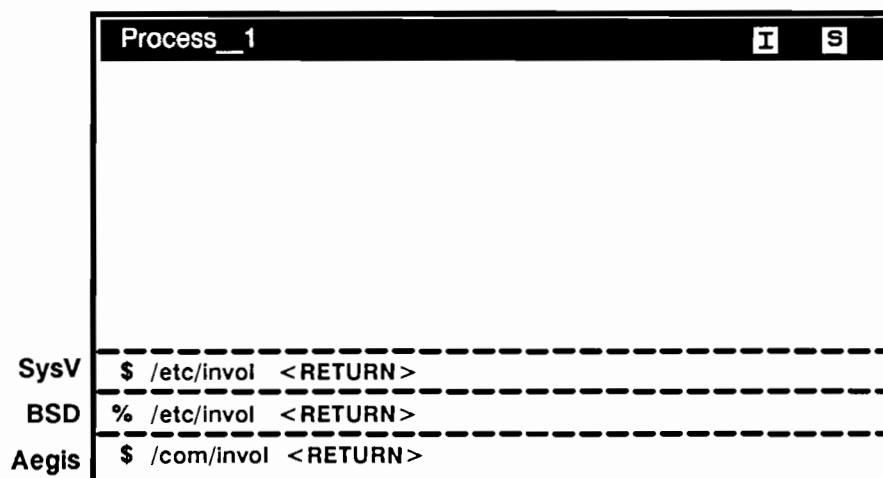

Figure 6-17. Running *invol* from a Shell
2. Enter the command shown in Figure 6-17 to invoke the **invol** utility from an Aegis, BSD, or SysV command shell.